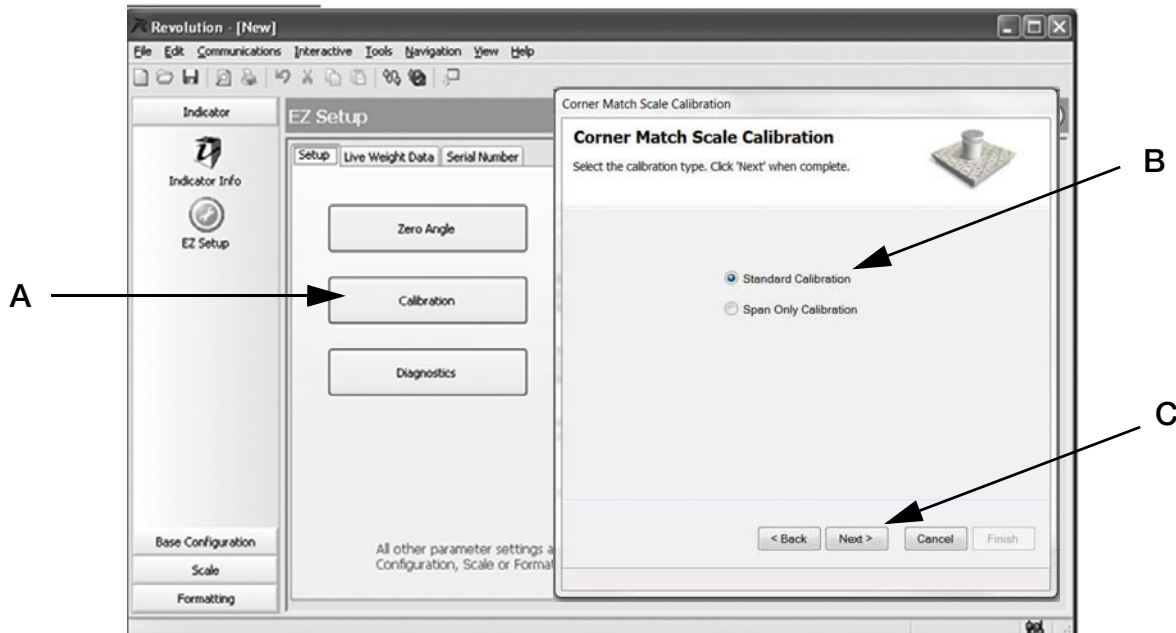

Figure 4-9. Enter Calibration
1. Select *Standard Calibration* (Figure 4-9 B)
2. Press *Next* (Figure 4-9 C).